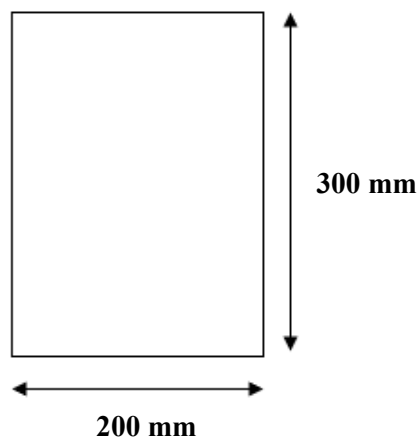

Figure 4(a) / Rajah 4(a)
- (a) A rectangular beam 200mm wide and 300mm depth as shown in Figure 4(a) are subjected to a maximum shear force of 100kN. Determine shear stress at a distance of 100mm above the neutral axis.